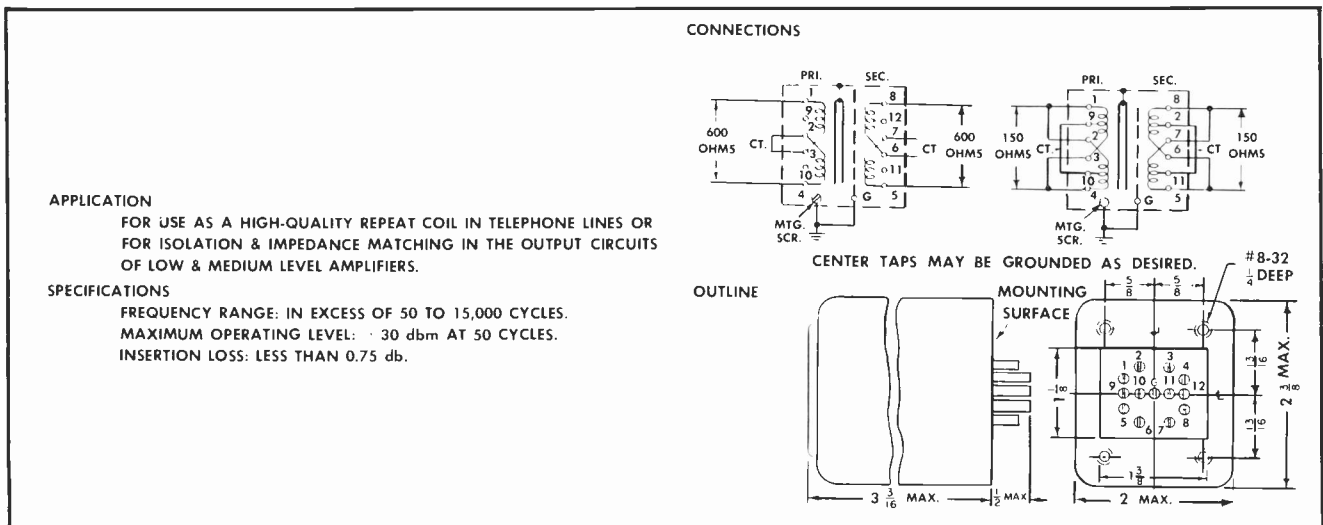

Fig. 9-2 Installation Drawing for FA-40-A Transformer
- Connections .....see Fig. 9-2